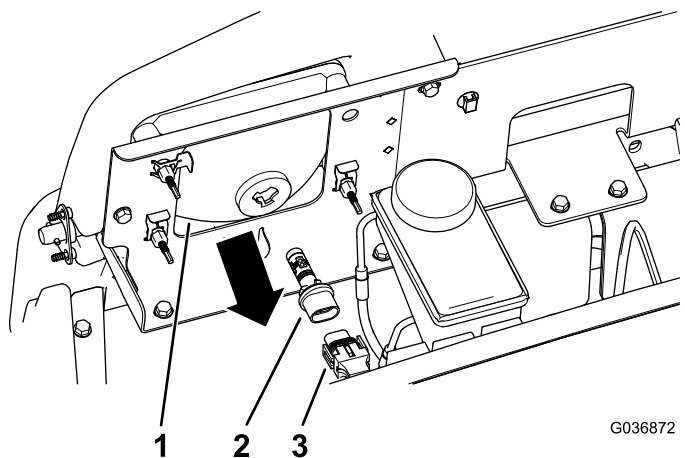

Figure 51
3. Disconnect the electrical connector for the harness from the connector of the lamp assembly at the back of the headlight housing (Figure 51).
4. Rotate the lamp assembly 1/4 turn counterclockwise and moving it rearward, out of the headlight housing (Figure 51).
5. Insert the new lamp assembly and headlight housing and align the tabs in the lamp assembly with the slots in the headlight housing (Figure 51).
6. Secure lamp assembly by turning it 1/4 turn clockwise (Figure 51).
7. Connect the electrical connector for the harness to the connector of the new lamp assembly (Figure 51).